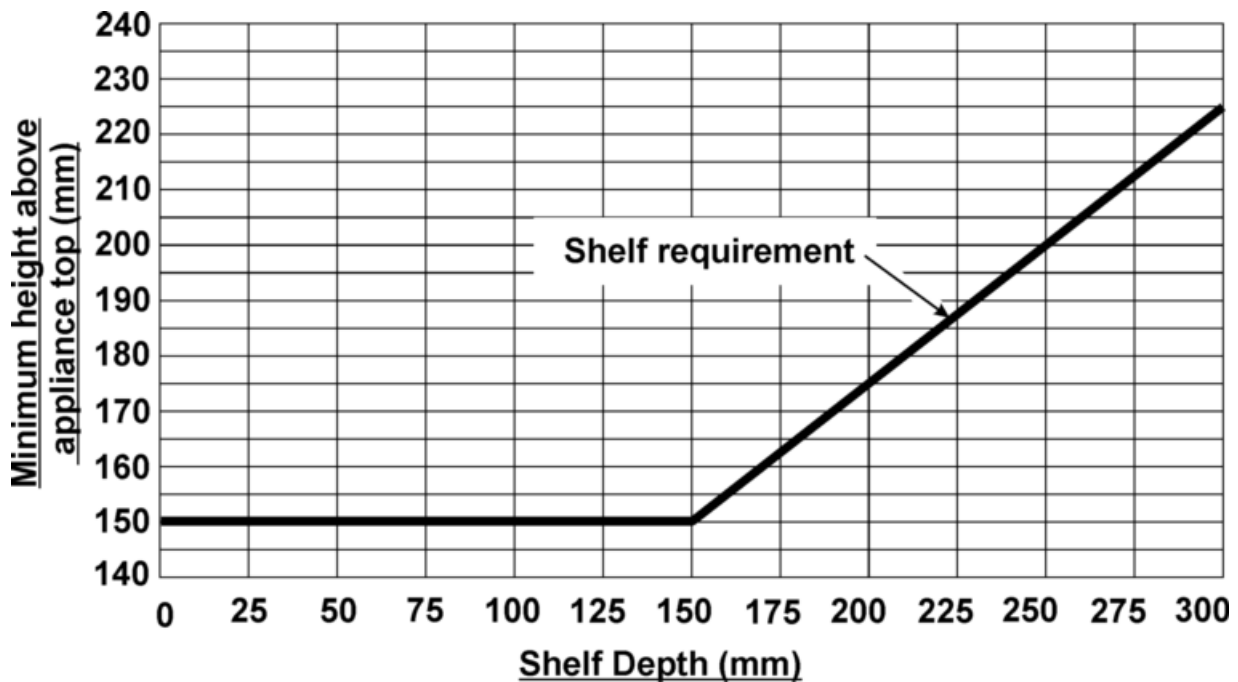

Figure 3. Combustible shelf clearances
- For a shelf deeper than 150mm: 150mm + 12.5mm for every 25mm depth over 150mm (See figure 3).